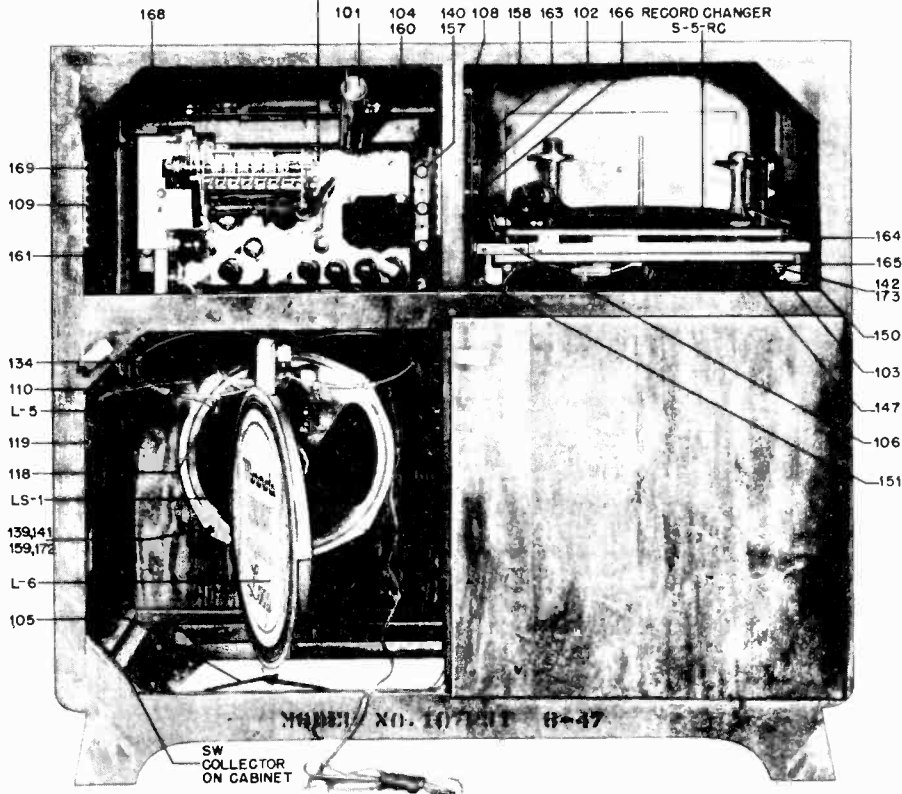

FIGURE 12. PARTS LOCATION - CABINET - MODELS 107F31 & 107F31B
2. While waiting for the radio to warm up, loosen the tuner locking screw (A) all the way. The locking screw is accessible from the rear of the cabinet. (See Figure 12.)
9. Carefully tighten the tuner locking screw (A).